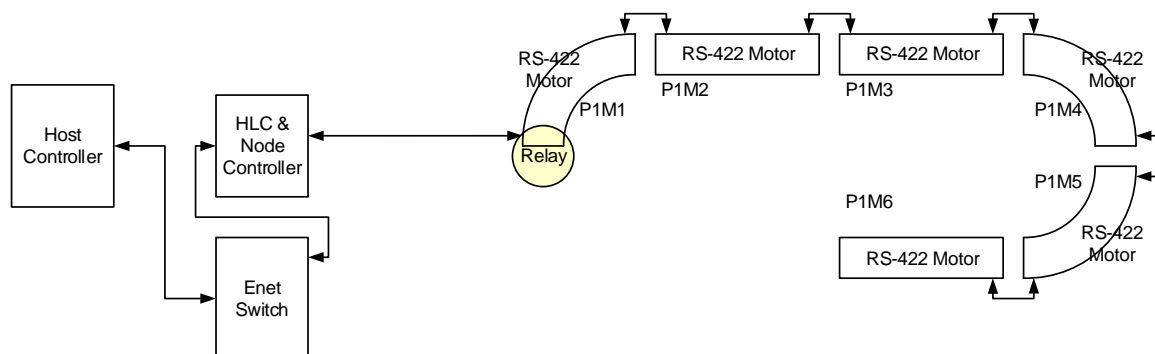

Figure 17: Basic RS-422 Loop with Motors Removed
2. Remove the RS-422 motors from the transport system as shown in Figure 17 (see the *MagneMover LITE User Manual*).